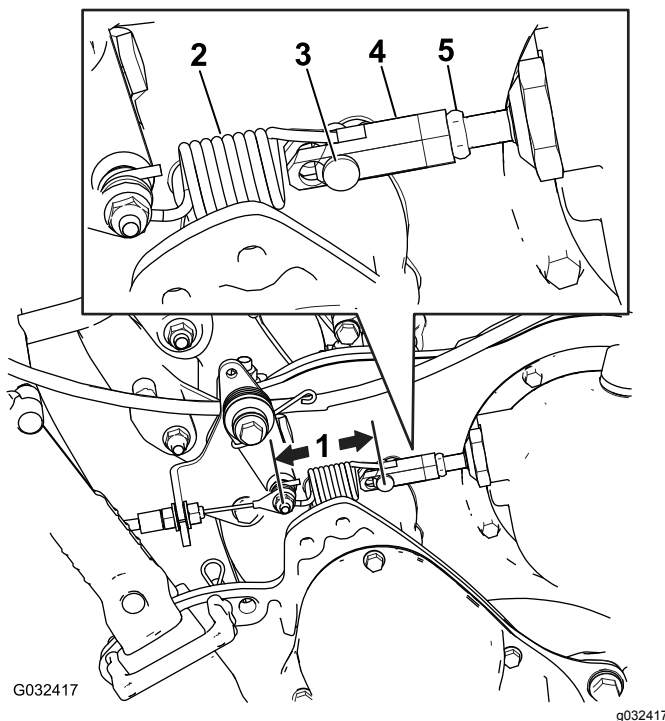

Figure 48
2. Measure the distance from the pin on either end of the traction-control spring (Figure 48); if it is not within 7.3 to 7.6 cm (2-7/8 to 3 inches), adjust the clutch according to the steps below.
- F. Measure the distance from the pin on either end of the traction-control spring (Figure 48); repeat steps A through F until it is within 7.3 to 7.6 cm (2-7/8 to 3 inches).
- B. Loosen the jam nut on the turnbuckle and remove the clevis pin, disconnecting the spring from the turnbuckle (Figure 48).